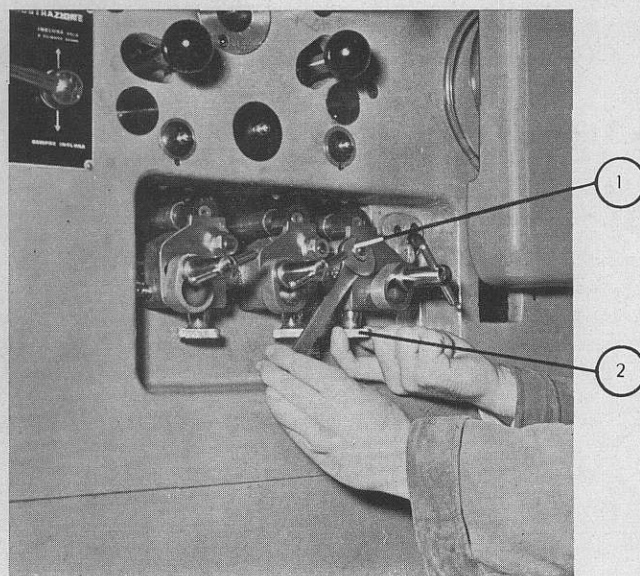

Fig. 22
- a) check contact with printing form: loosen hex-head locknut 1 (fig. 22) and check level of each roller by adjusting lower knurled nut 2 (fig. 22).